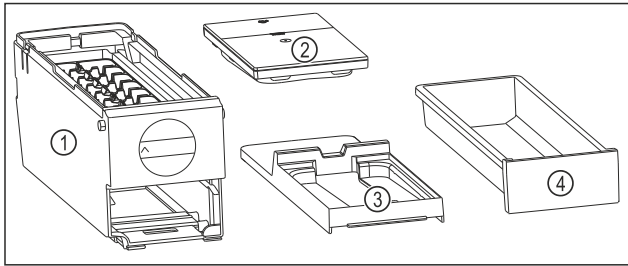

Fig. 133 Components of the EasyTwist-Ice
- ▷ EasyTwist-Ice is dismantled into four parts. (see Fig. 133)
- ▶ Only dismantle the EasyTwist-Ice into the components shown. (see Fig. 133)
- ▶ Clean the EasyTwist-Ice body Fig. 133 (1) as a whole.